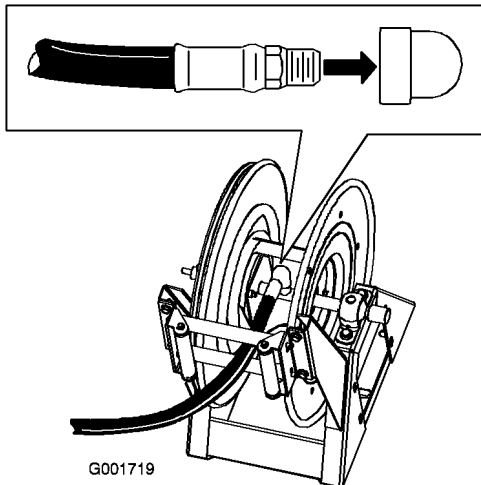

Figure 32
1. Wrap Teflon tape around the threads of the hose fitting on the long hose and install the fitting into the connecting tube on the reel (Figure 32).